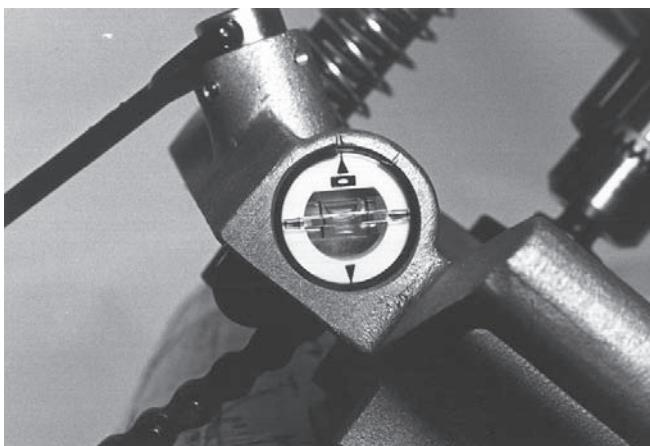

Figure 6 – HC-450 Hole Cutting Tool Level Vial
- The base of the HC-450 Hole Cutting Tool includes a level vial that can be used to align a series of holes. When the Hole Cutting Tool is placed at the desired angle, the vial can be rotated to the level position, and subsequent holes can be made at the same angle by leveling the Hole Cutting Tool with the vial. (See *Figure 6*.)